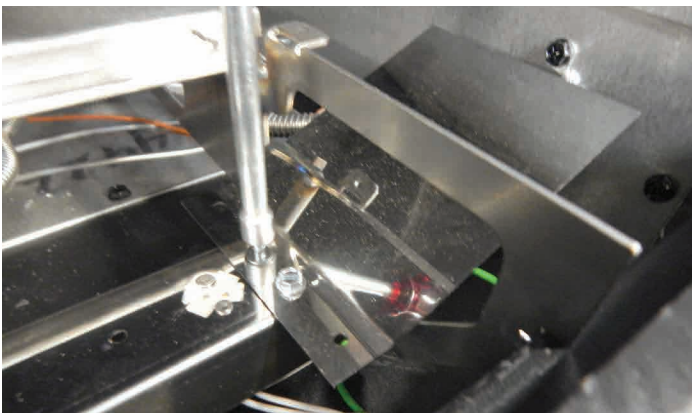

Figure 10
- Attach two End Deflectors (one at each end of the Light bracket assembly) with (2) # 8 x 1/4" Screws each. **See Figure 10.**